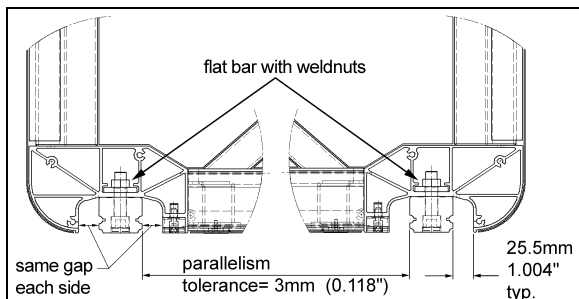

FIGURE 29: RAIL POSITIONING
The rail is bolted to a flat bar on which weldnuts are mounted. The flat bar is inserted in the slide-out lower body extrusion and can be removed through the end cap (Figure 29).
8. Adjust the rail position per Figure 29. For each rail, make sure the gap is the same on both sides of the rail. Use acetal blocks to inspect the gap.